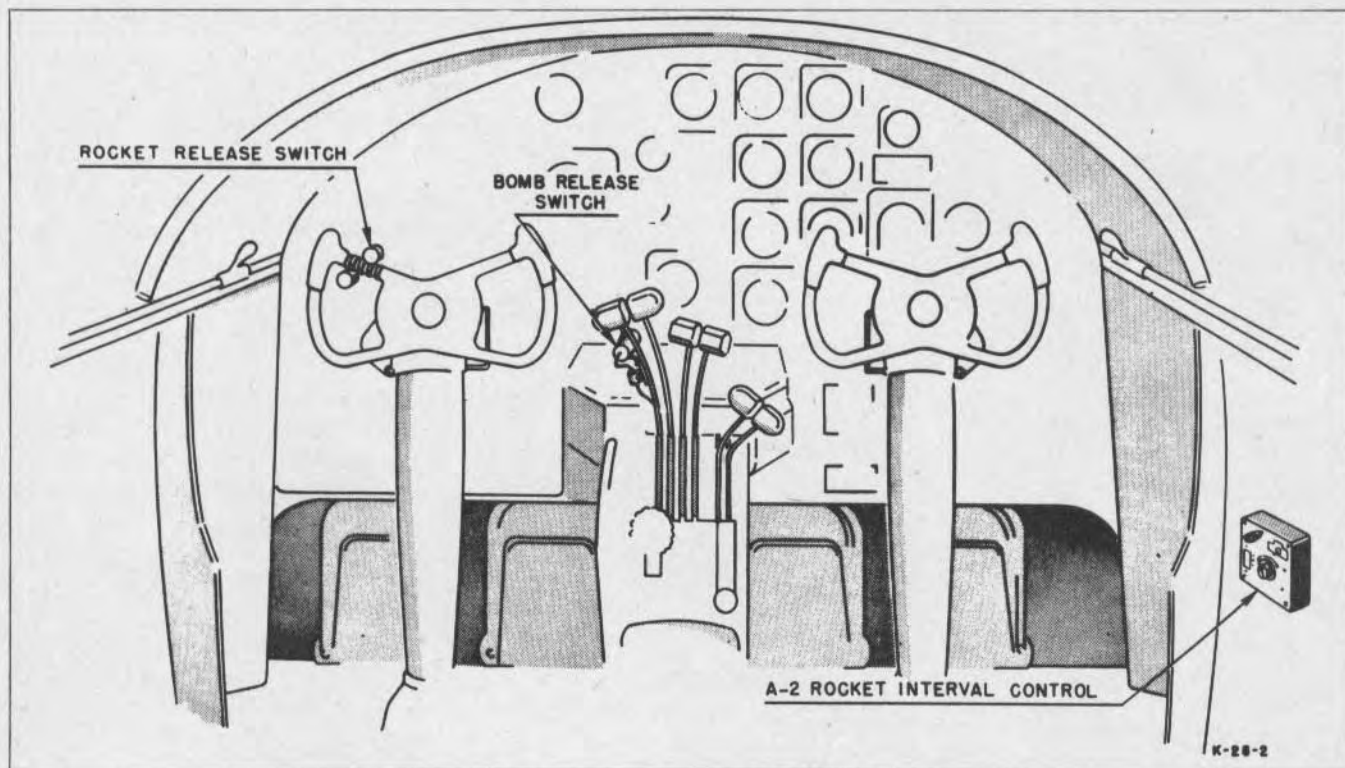

Figure 39B—Rocket Release Controls
(1) DESCRIPTION.—On late airplanes, four sets of launchers, each designed to carry a 5" high velocity aircraft rocket, are mounted on the under surface of each wing. Rockets are released by a button on the pilot's control wheel. (See figure 39B.) An A-2 projector release control, on the right side of the pilot's compartment, provides automatic release of all or part of the rockets at 1/10-second intervals. Rockets may be set to explode on impact, or .015-second after impact, by setting the fuse-arm-